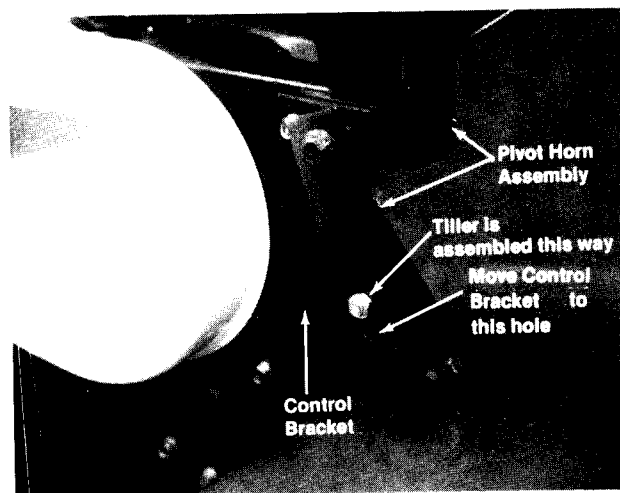

FIGURE 20.
1. Move the control bracket to the bottom hole on the pivot horn assembly and readjust the gear shift rod. See figure 20.